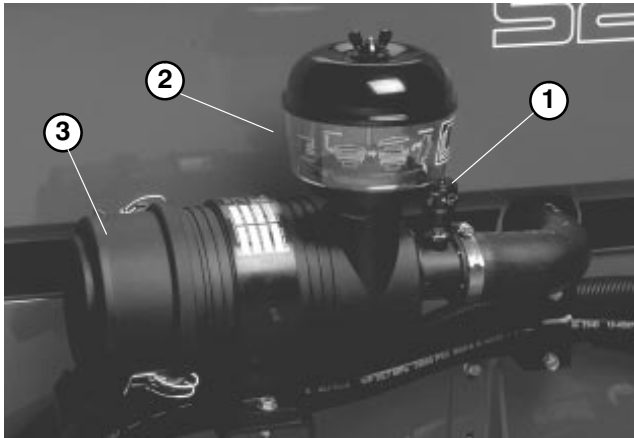

Figure 47
2. Service the air cleaner filters when ever air cleaner indicator (Fig. 47) shows red or every 400 hours (more frequently in extreme dusty or dirty conditions). Do not over service air filter.
SERVICING PRECLEANER BOWL (Fig. 47)
8. Reset indicator (Fig. 47) if showing red.